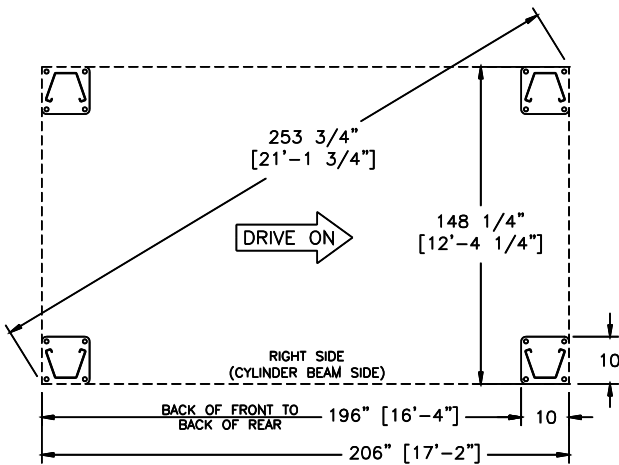
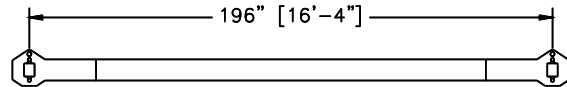

Fig 5 – Column Base Plate Layout Lines
Fig 6 – Cylinder Beam Measurement
2) Check lift column base plate layout lines using Fig 5 below.
5) With the right side columns positioned but not anchored, measure the distance from the *back* of the **front column** base plate to the *back* of the **rear column** base plate (this is the same as measuring the center-to-center of the two columns), see Fig 5. This measurement should match (within 1/8") the center-to-center distance from the slack chain rod holes in the cylinder beam, Fig 6. If the two dimensions do not match, move the rear column (not to exceed 1/2") to make them match.